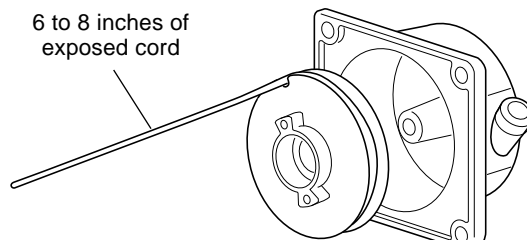

Figure 4.8 Installing the reel
STEP 2. Wind the cord on the reel in the reverse order of removal, but leave the last 6 to 8 inches of cord exposed and hanging from the reel notch (Figure 4.8).
STEP 1. With 6 to 8 inches of starter cord still protruding from the reel notch, wind the reel 2 to 3 turns counter-clockwise (clockwise on F-20). See Figure 4.8.